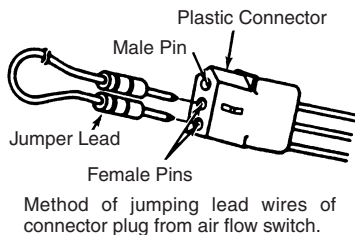

Figure 22
For test purposes, the air flow switch may be "wired out" of the system. This will eliminate the need for air flow across the sensing thermistor to energize the power supply (see Fig 22).
3. Disconnect the three-pin plastic connector and jumper the two female pins (white wire to white-brown wire) as shown in Fig. 22.
4. If voltage did not appear (Step 3), disconnect power to power pack. Locate air flow switch and remove power pack cover. Disconnect the three-pin plastic connector. Jumper the two female pins (white wire to white-brown wire) as shown in Fig. 22. Reconnect power to power pack. Turn power switch "ON."